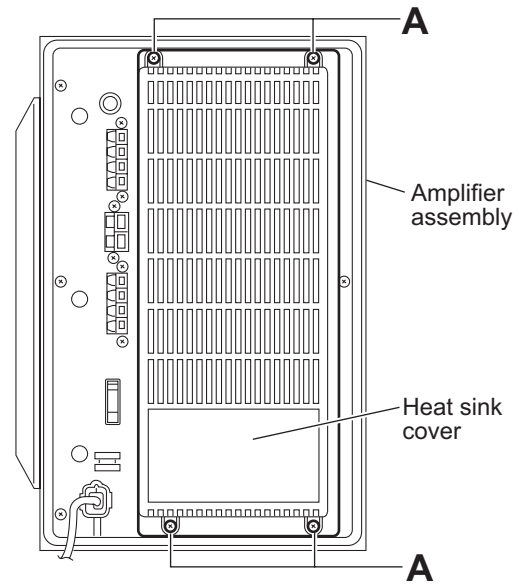

Fig.1
(See Figs.1 and 2)
- (1) From the rear side of the speaker main body, remove four screws **A** attaching the heat sink cover. (See Fig.1.)